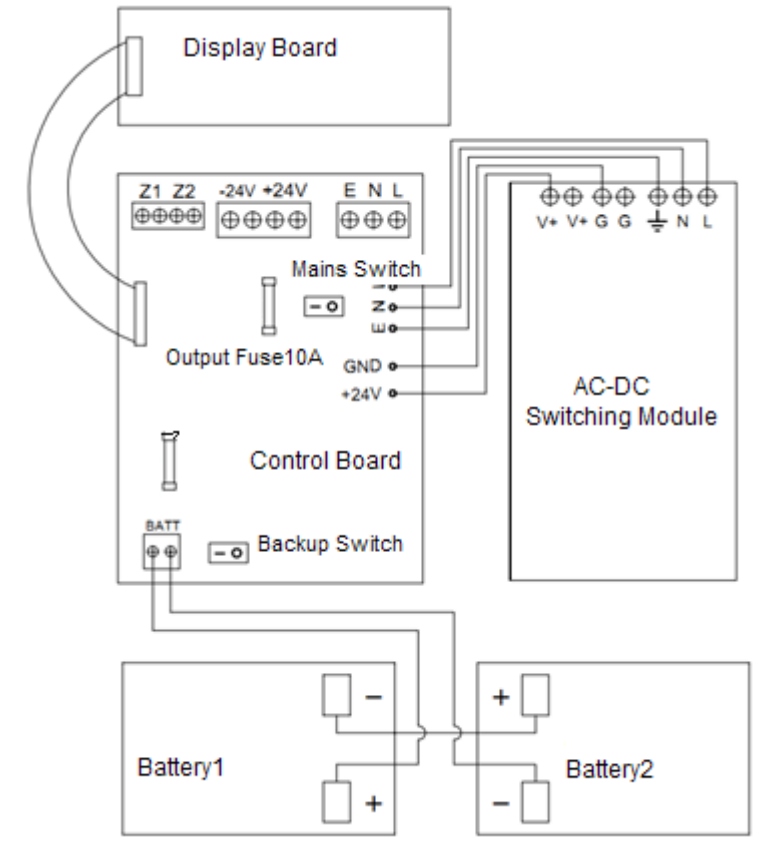

Fig 4 Internal Wiring
5.5 Internal Wiring is shown in Fig 4